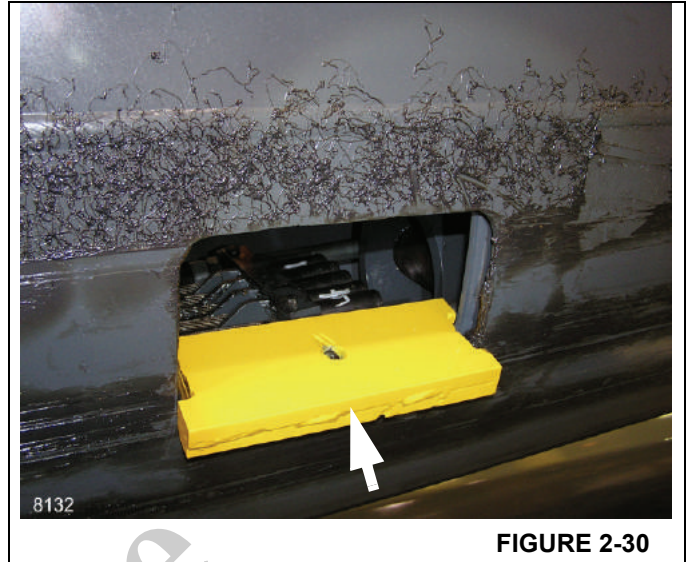

FIGURE 2-30
3. Install the telescope hold valve tool, P/N 80041761, see Figure 2-30. While holding the tool in position have a helper retract section 3 to lock the tool into place.